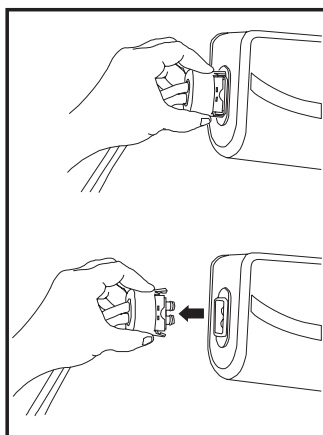

Figure 9
2. Disconnect hoses from pump to level mattress (for A and AR models), as shown at right (Figure 9).